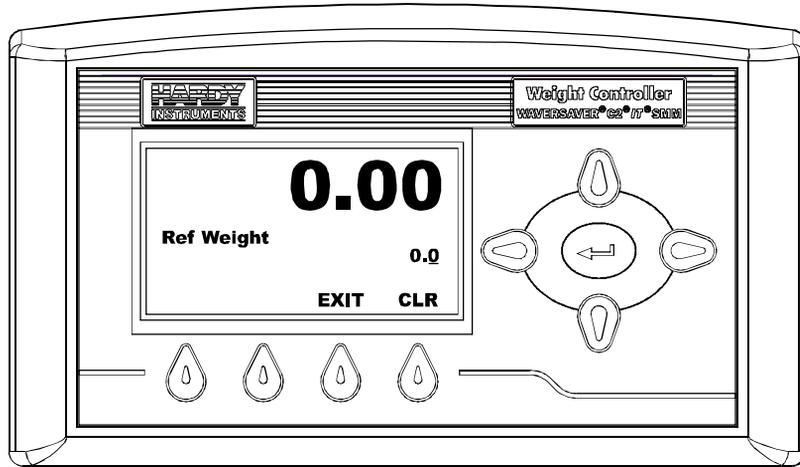

FIG. 312 REFERENCE WEIGHT MENU
Step 6. Press the Enter button. The Reference Weight menu appears. (See Fig. 312)